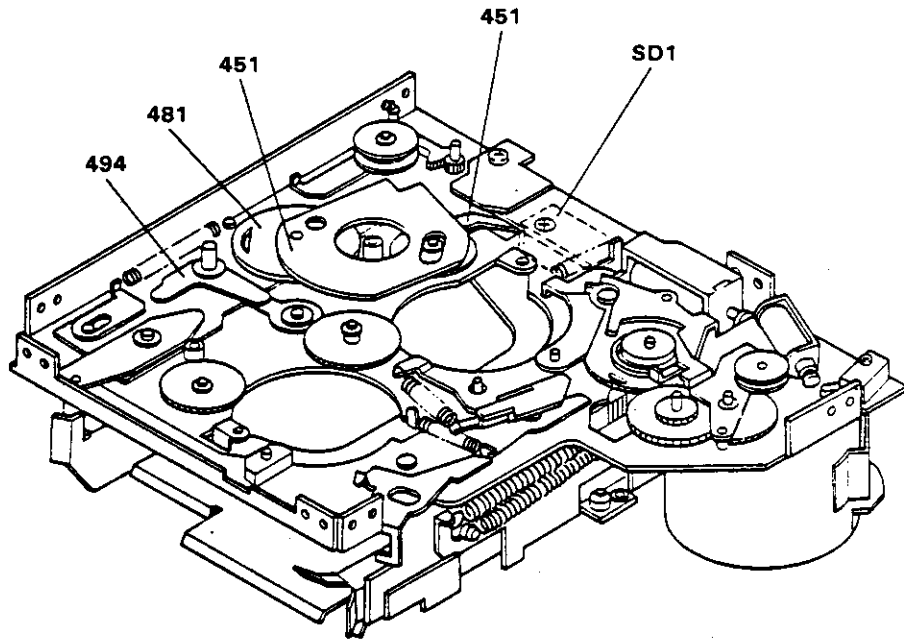

FIGURE 4-3. REVERSE OPERATION MODE
3. Reverse Operation - Tape travel direction can be reversed at any time in the play mode by simply turning the Program Button (SW) on. When Program Solenoid (SD1) is energized, Reverse Lock Lever (451) is pulled and Lock of Change Gear (481) is released, allowing the Change Gear (481) pressed by Reverse Act Lever (451) to engage with Flywheel's gear. A boss provided on Change Gear (481) moves Select Lever (425) up (or down) to move the Pinch Roller Shaft (444), thereby changing Pinch Roller's (430/449) pressure direction, thus reversing direction of tape travel (see Figures 4-3 & 4-4).